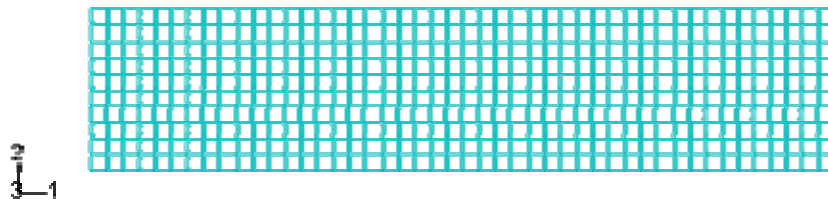

Figure W15–6 Plate mesh.
4. From the main menu bar, select **Mesh→Part** and click **Yes** in the prompt area to mesh the part. The mesh is shown in Figure W15–6.